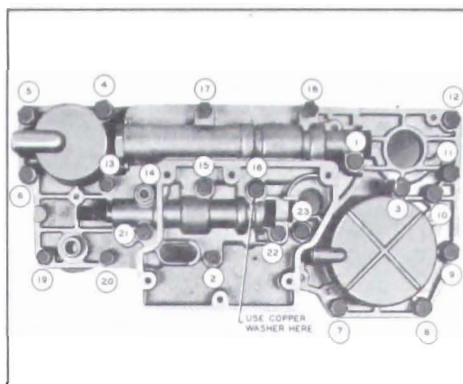

Figure 5-124—Valve and Servo Body Tightening Sequence
4. Install various length bolts with lock washers according to depth of holes through valve and servo bodies. Use copper washer on bolt indicated in Figure 5-124.
5. Tighten all bolts to 5 ft. lbs. torque in the numerical sequence shown in Figure 5-124. Repeating the same sequence, tighten all 1/4" bolts and nuts to 11-15 ft. lbs.